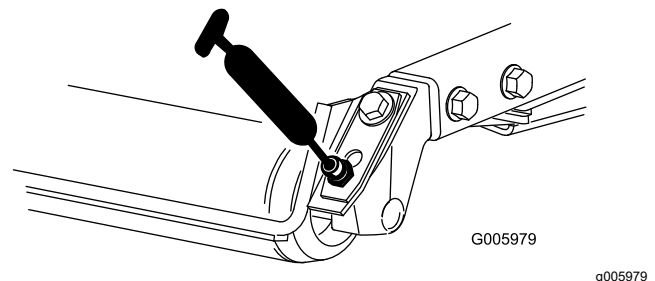

Figure 79
- Rear roller bearings (2 per cutting unit) as shown in Figure 79